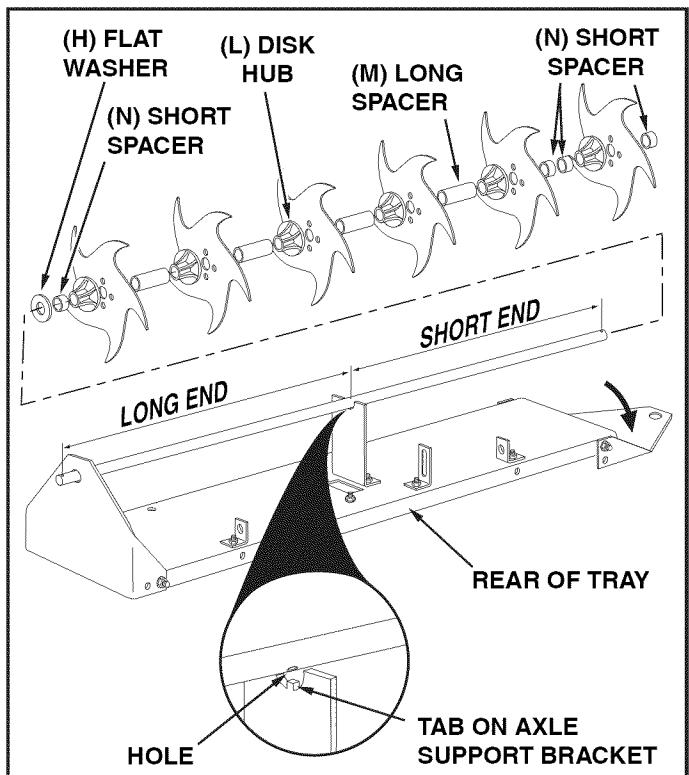

FIGURE 3
4. Pivot the end plate on your right down out of the way. Place the **long** end of the axle into the other pivot plate. (Measure from the blind hole in the middle of the axle. If there are two blind holes, use the hole that is in alignment with the end holes.) Fit the middle hole in the axle down onto the tab on the axle support bracket. See figure 3.
5. Assemble the following parts in sequence onto the short end of the axle (as shown in figure 3):
- a. A flat washer (H), short spacer (N), disk hub (L) and spike disk
- b. A long spacer (M), disk hub (L) and spike disk.
- c. A long spacer (M), disk hub (L) and spike disk.
- d. A long spacer (M), disk hub (L) and spike disk.
- e. A long spacer (M), disk hub (L) and spike disk.
- f. Two short spacers (N), a disk hub (L) and spike disk.
- g. A short spacer (Q).